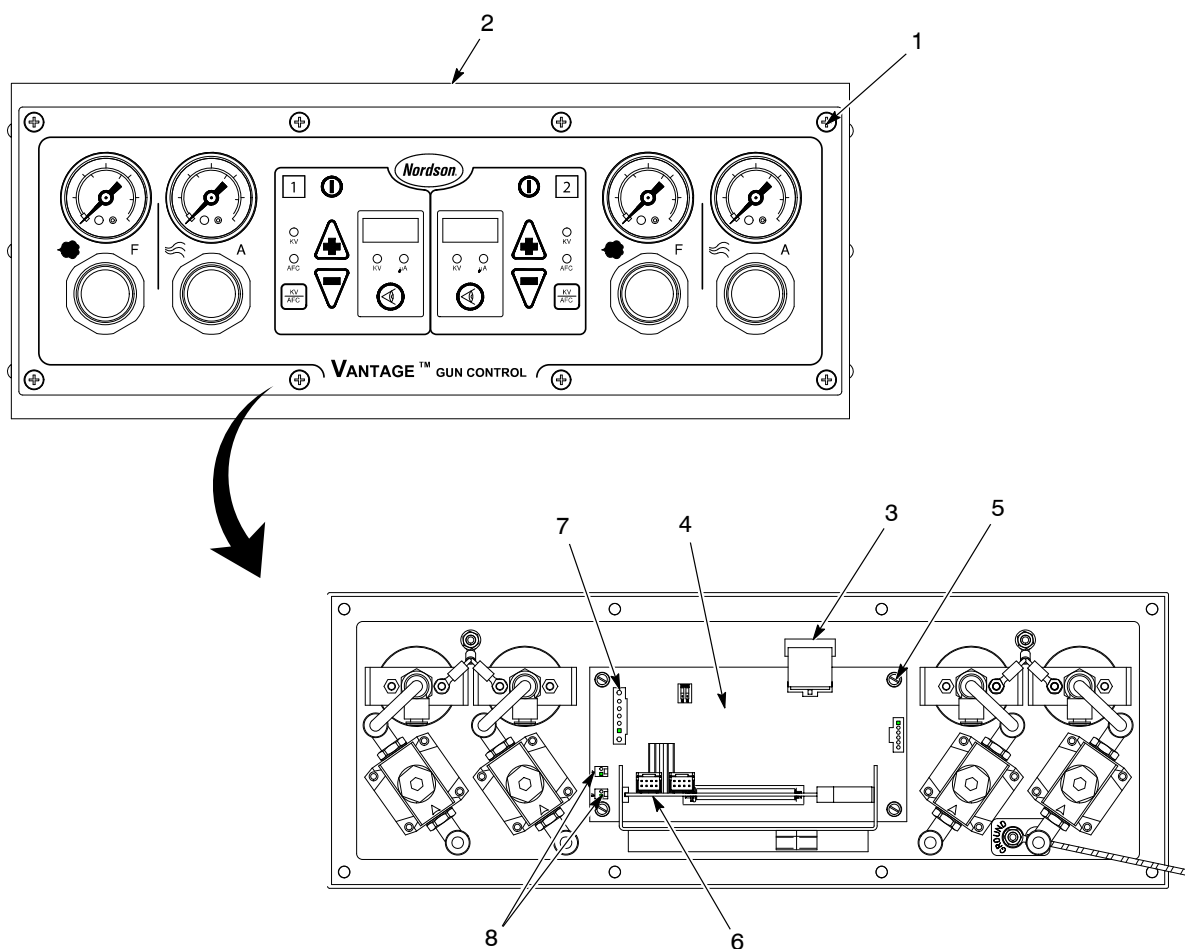

Figure 6-5 Interface Display Board Replacement
1. See Figure 6-5. Remove the eight screws (1) securing the front panel (2) to the cabinet. Carefully pull the front panel from the cabinet so you do not disconnect any cables or tubing or damage the front display.
2. Remove the gun board (6) as described in *Gun Board Replacement* on page 6-7.